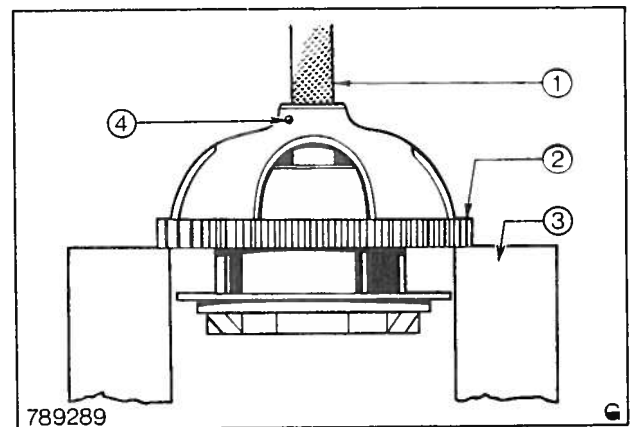

Fig. 8 Removing the Pump Drive Gear.
6. Support the oil pump on the rear face of the drive gear, Fig. 8. The mounting plate and the pump should clear the drive gear supports.